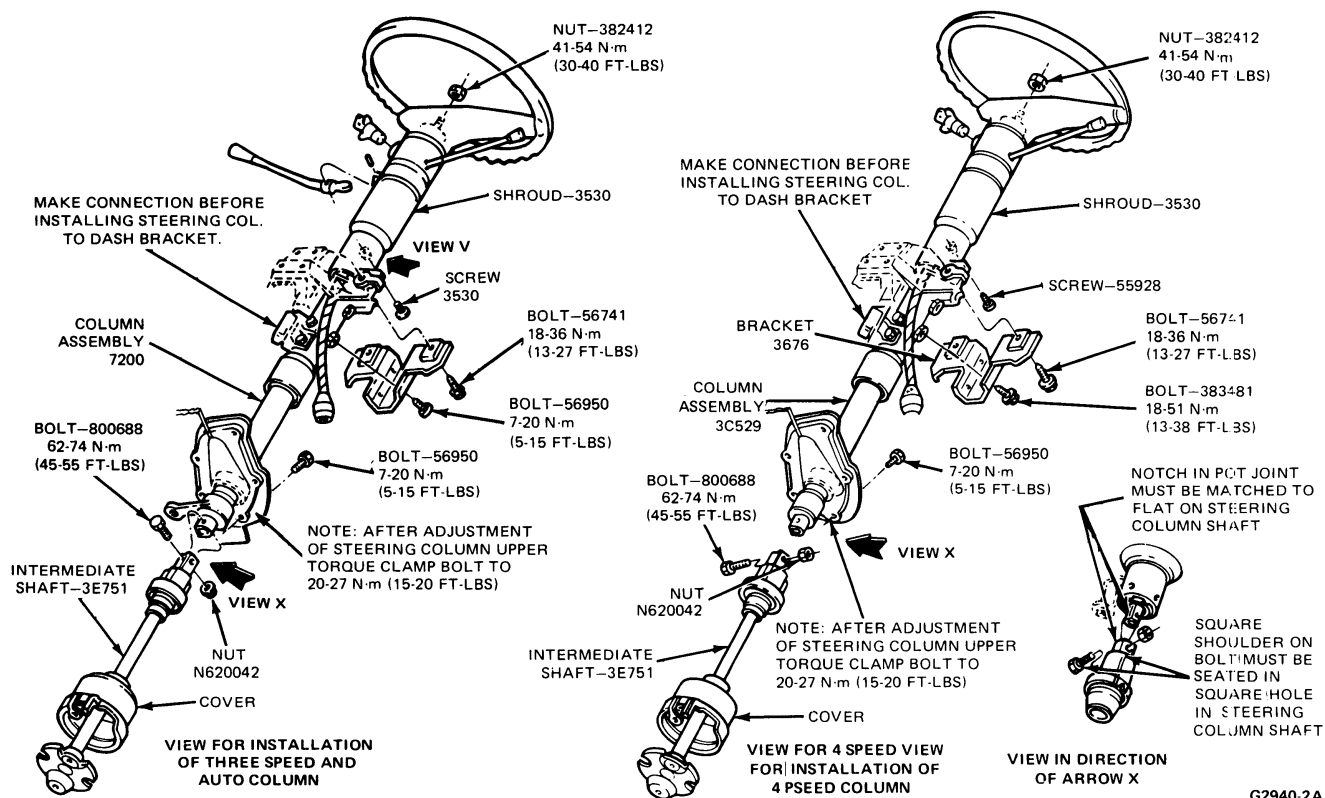

FIG. 5 Steering Column Installation—F-100-350, Bronco
Refer to Fig. 5.
3. Attach intermediate shaft to steering column, making sure notch in pot joint is matched to the flat on the column shaft (Fig. 5). Install nut and bolt and tighten to 62-77 N·m (45-57 ft-lbs).
Refer to Fig. 5